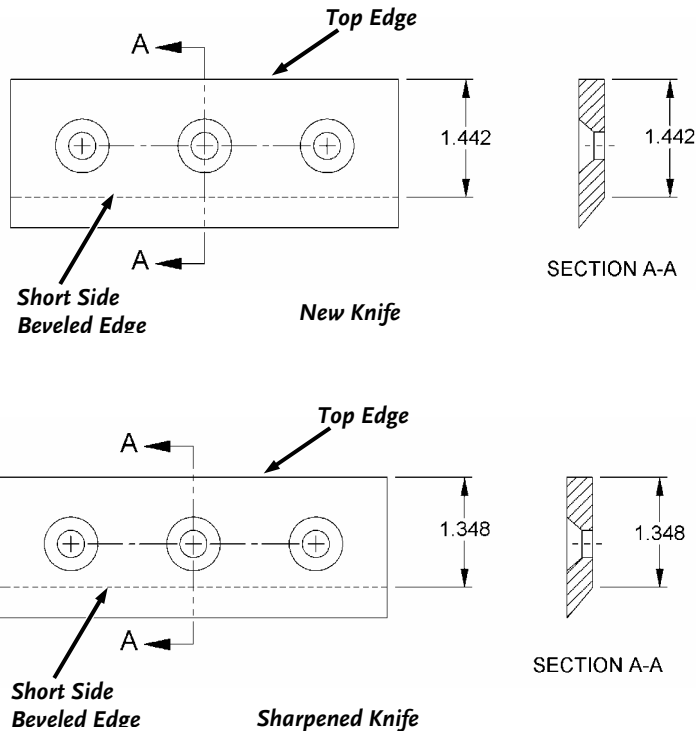

Figure 37
- A new Chipper Knife has 1.442" measurement between the short side bevel edge and the Knife Top Edge (**Figure 37 "New Knife"**).
- Once this measurement is below 1.348" (see **Figure 37 "Sharpened Knife"**), or if you are unable to remove dents or gouges with these guidelines, replace the Knife.